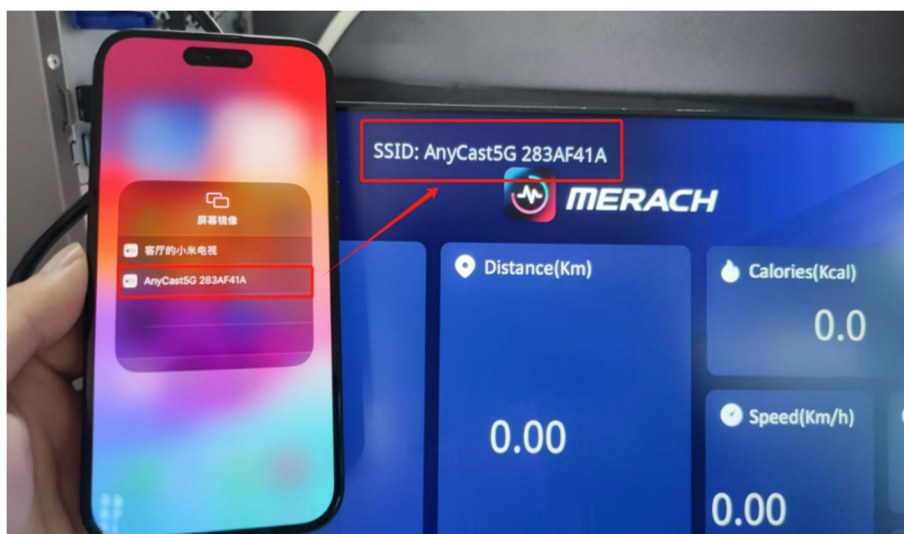

Figure 3
3. After the SSID code appears, find the screen casting function in the settings of the screen casting device and turn it on. After turning it on, find the device with the same SSID code as the wireless screen casting and click to select screen casting, as shown in Figure 3 (note: if it is the first time connecting to an iPhone, you need to enter the four digit password that appears in the upper right corner of the wireless interface).